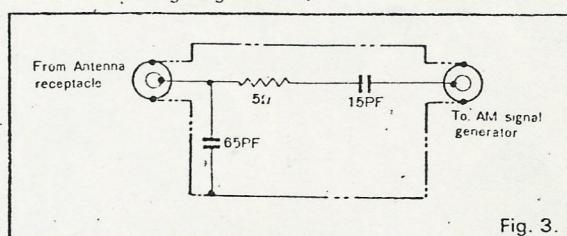

Fig. 3.
B. Adjustment of AM (MW) RF circuit:
- Connect V.T.V.M. to the output terminal and an AM signal generator to the ANT receptacle, at the same time insert the dummy as shown in Fig. 3 between the ANT receptacle and the MW signal generator.